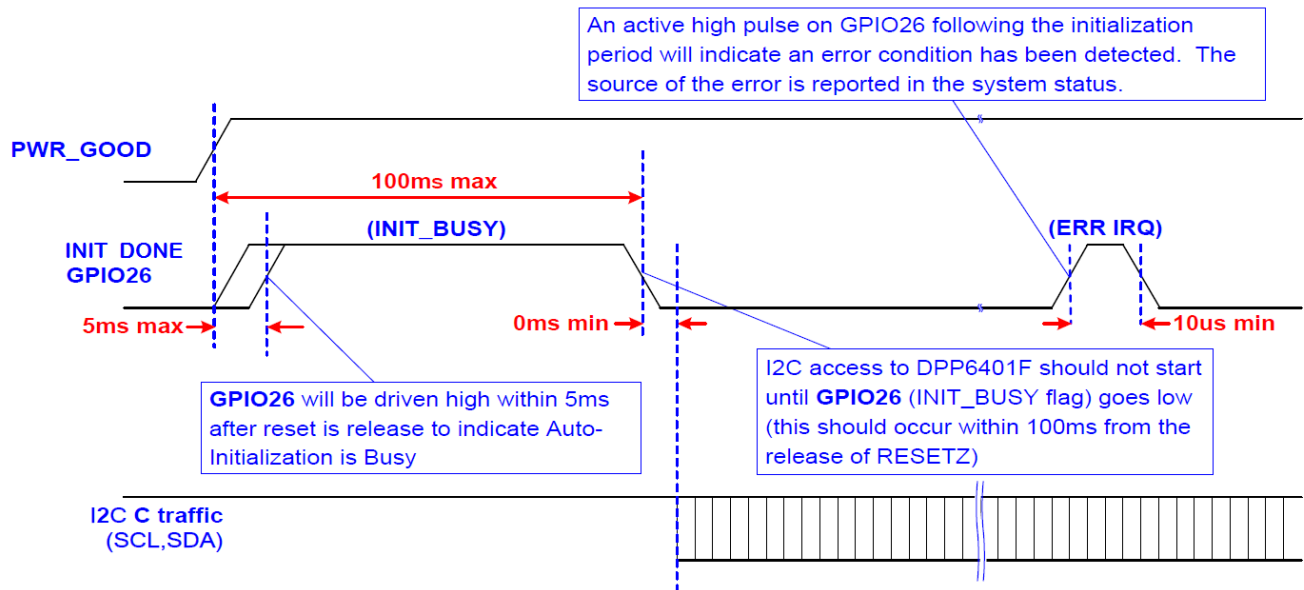

Figure 24. Internal Memory Test Diagram
- After the clocks are configured, an internal memory test is performed. See Figure 24 and note that GPIO26 is the INIT_DONE signal.